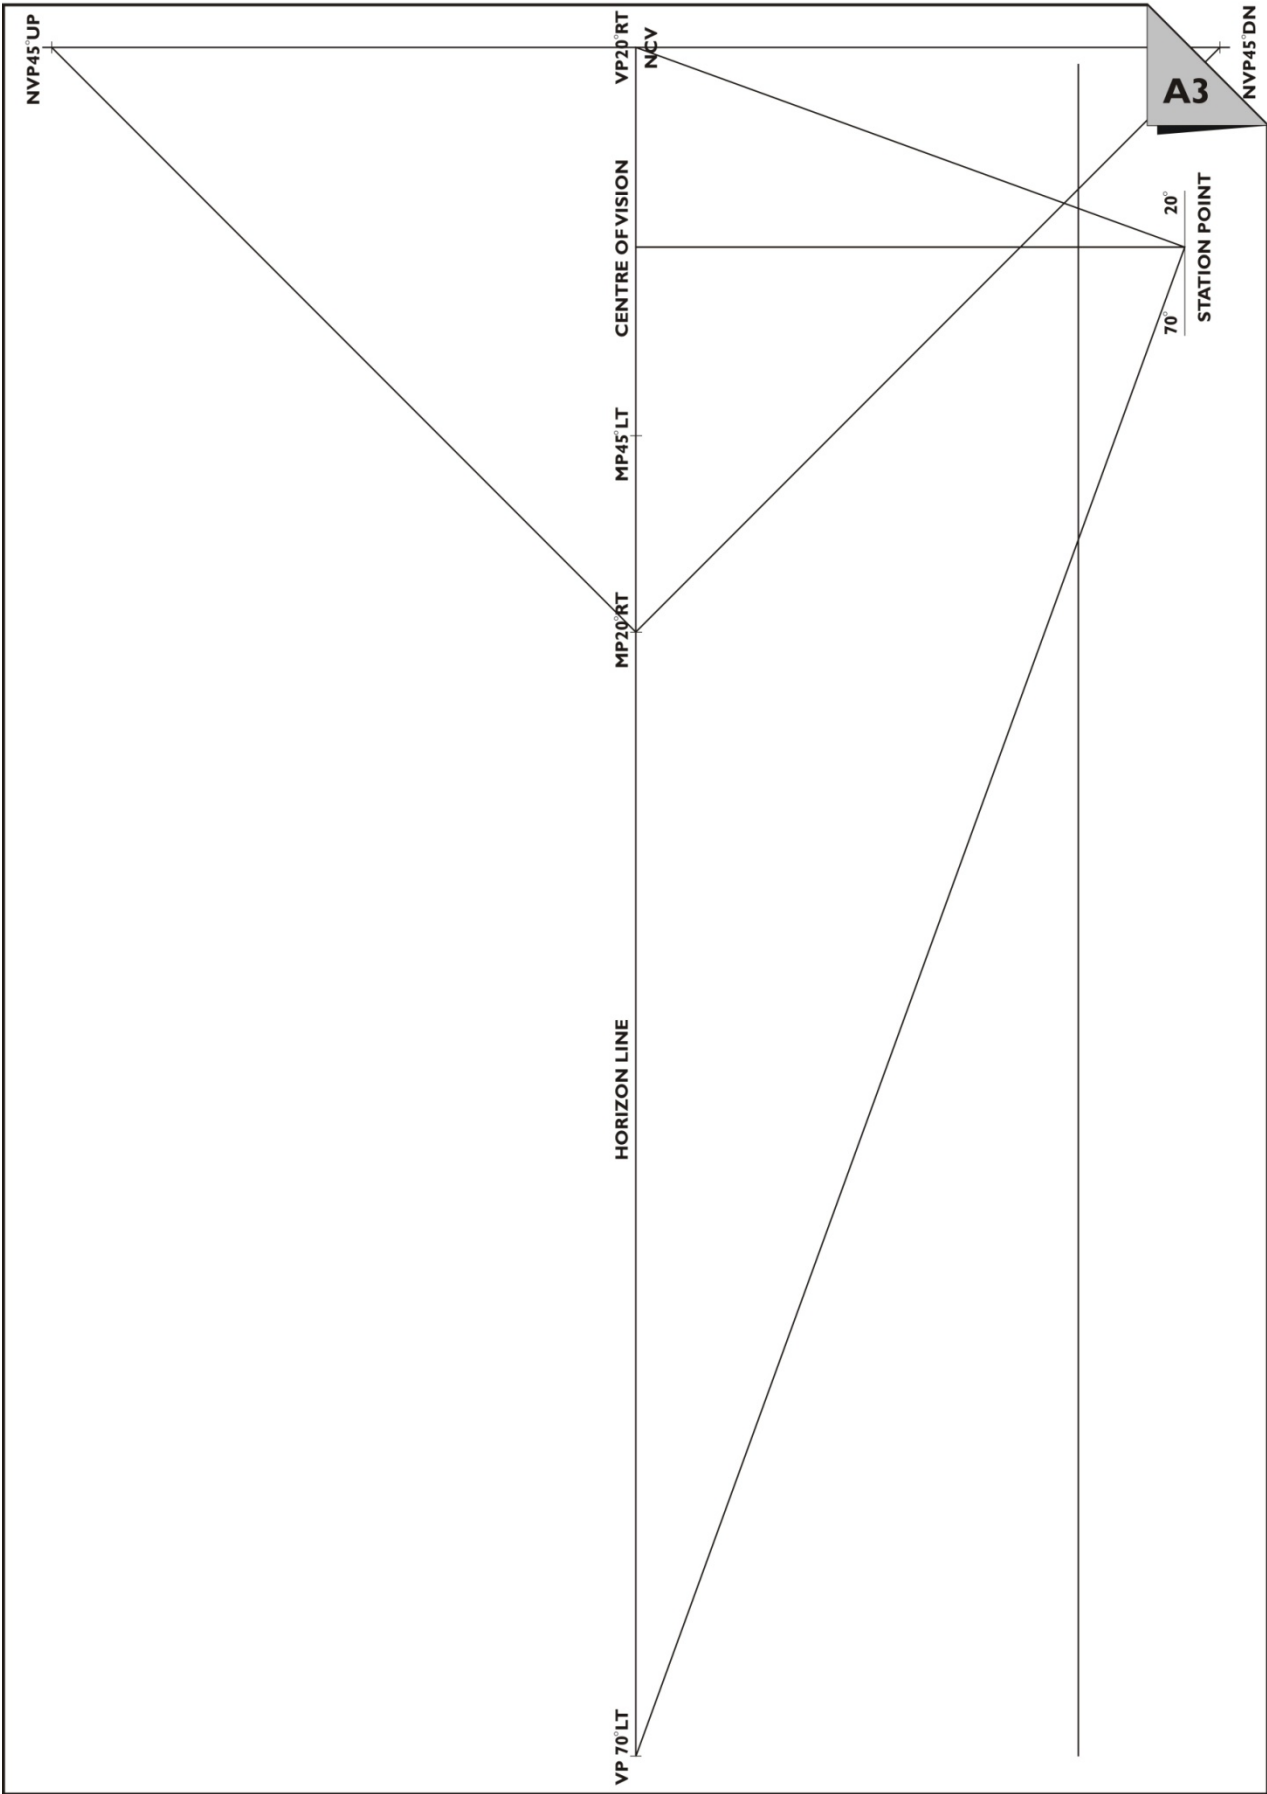
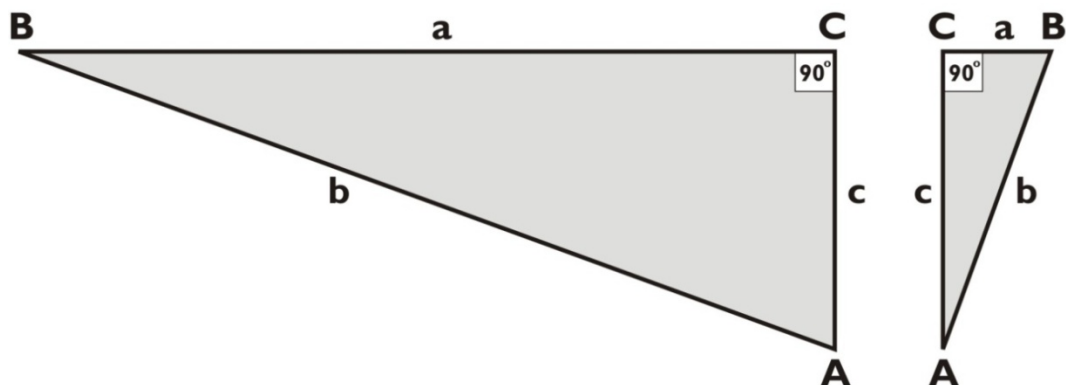

Figure 5.1 Three-point perspective grid measuring-point plan
Figure 5.2 Triangle Calculus
1. Position the station point, the ground line and the horizon line. Refer to Figure 5.1 for information.
1. Position the centre of vision on the horizon line directly above the station point, both horizontally and vertically centred on the page as shown in Figure 5.1. Use calculations, as shown in Figure 5.2, to accurately position the construction on the A3 size paper.
1. Use the grid that has been constructed in the previous exercise to create this Rubik Cube. Refer to Figure 5.1 for information.